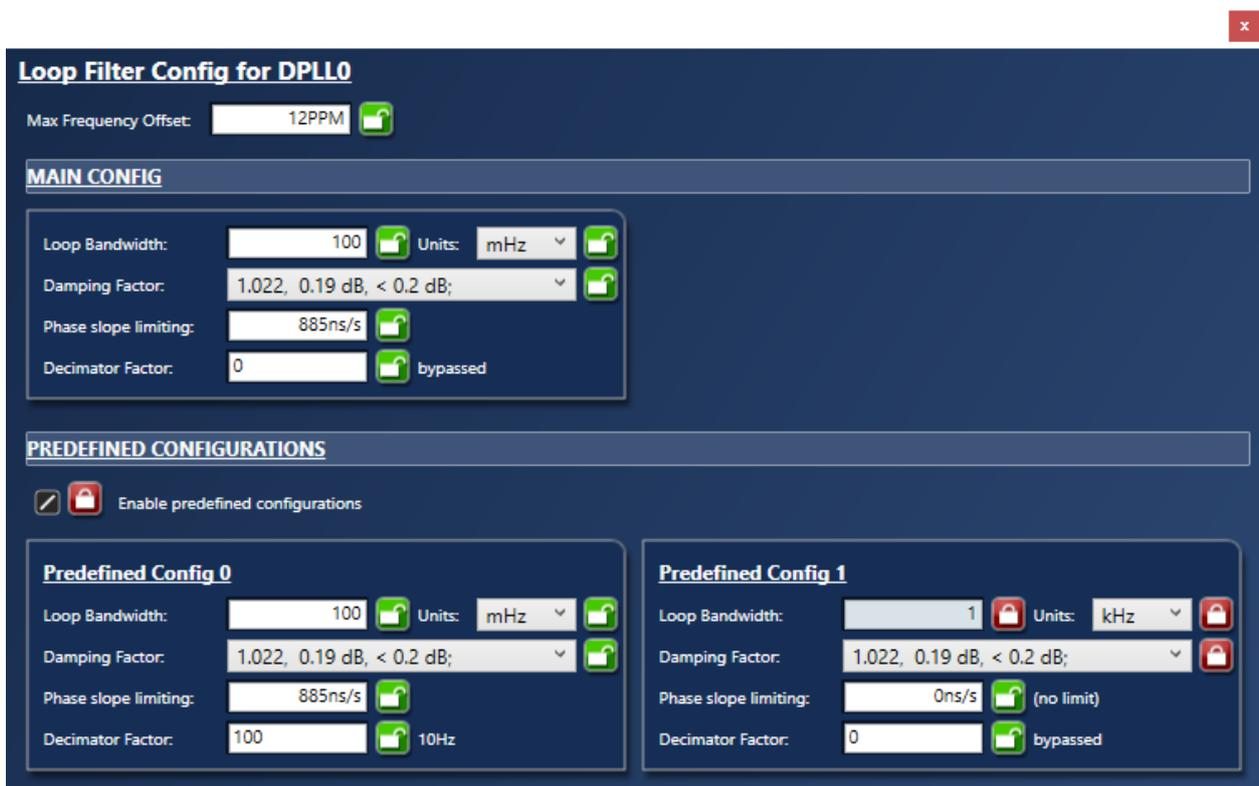

Figure 4. Digital Loop Filter Configuration
- Figure 4. Digital Loop Filter Configuration4
The GUI can select the slave or GPIO_slave reference modes as displayed in Figure 4. This example has the SyncE DPLL on channel 0 with an external reference on clk0 and the timing card to timing card signal on clk1. For this application, the DPLL should use hitless switching mode. (The hitless switching mode setting only applies when the DPLL is not in slave or GPIO_slave modes.)
Figure 4 shows the digital loop filter configuration including the use of predefined configurations to switch the bandwidth for the different input clocks.
Note: In Figure 4, the “main config” settings are ignored when predefined configuration are enabled.